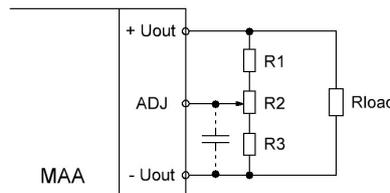

Fig.3.9. Output voltage adjustment using external potentiometer
PSU's output voltage adjustment within the range of at least $\pm 10\%$ by ADJ output can be done by the external potentiometer as shown in Fig. 3.9.
Rating of the divider's resistors R1, R2, R3 should be selected in such a way, that when you move slider R2 from top to bottom position according to Fig 3.9, Ucontr voltage at ADJ output will change from max to min for the respective min and max levels of Uout output voltage. Apart from this the divider's resistors rating must not be too high to ensure input or output current Icontr, i.e. by connecting the ADJ pin through a resistor to the pin «-Uout1» to increase the output voltage or to the pin «+Uout1» to decrease output voltage. Resistor rating is indicated in the PSU's certificate of conformity.
- in case there is long external adjustment circuit, it is recommended to connect ADJ pin to -Uout1 pin by small capacity (C1, fig. 3.9). Recommended C1 capacitor rating is about 0.47 ufd.